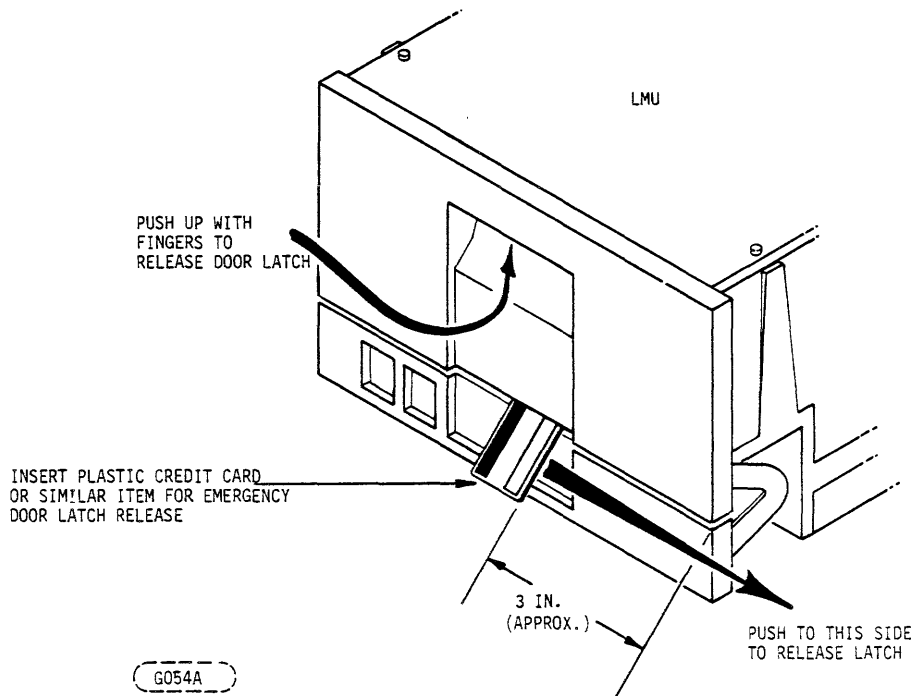

FIGURE 2-4. EMERGENCY/DRIVE FAILURE CARTRIDGE
In case of an emergency need to remove the cartridge, perform the following procedure. (Refer to Figure 2-4):
2. See Figure 2-4. Insert a plastic credit card or similar object into the space between the access door and the lower front panel. Push the small release tab behind the panel (about 3 inches from the right edge) toward the right with the card and hold while pushing up with the fingers on the door latch release. Pull the door open and remove cartridge. Close front door.